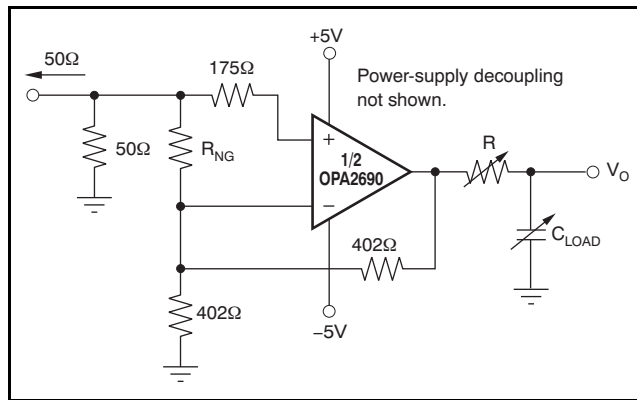
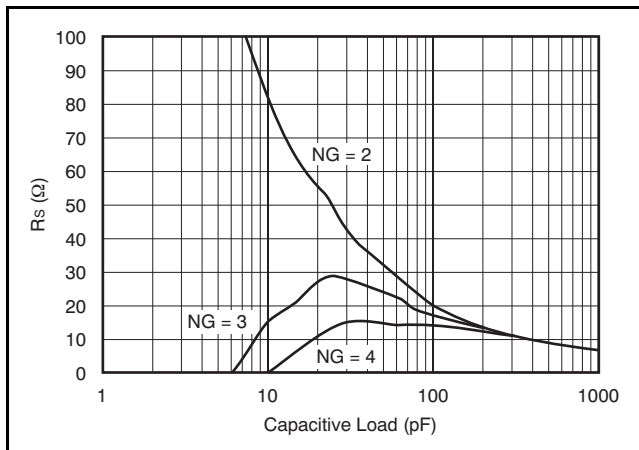

Figure 48. Capacitive Load Driving with Noise Gain Tuning
Figure 49. Required R_S vs Noise Gain
The criterion for setting this R_S resistor is a maximum bandwidth, flat frequency response at the load. For the OPA2690 operating in a gain of +2, the frequency response at the output pin is already slightly peaked without the capacitive load requiring relatively high values of R_S to flatten the response at the load. Increasing the noise gain will reduce the peaking as described previously. The circuit of Figure 48 demonstrates this technique, allowing lower values of R_S to be used for a given capacitive load.
This gain of +2 circuit includes a noise gain tuning resistor across the two inputs to increase the noise gain, increasing the unloaded phase margin for the op amp. Although this technique will reduce the required R_S resistor for a given capacitive load, it does increase the noise at the output. It also will decrease the loop gain, slightly decreasing the distortion performance. If, however, the dominant distortion mechanism arises from a high R_S value, significant dynamic range improvement can be achieved using this technique. Figure 49 shows the required R_S versus C_{LOAD} parametric on noise gain using this technique. This is the circuit of Figure 48 with R_{NG} adjusted to increase the noise gain (increasing the phase margin) then sweeping C_{LOAD} and finding the required R_S to get a flat frequency response. This plot also gives the required R_S versus C_{LOAD} for the OPA2690 operated at higher signal gains without R_{NG} .
- d. **Connections to other wideband devices** on the board may be made with short, direct traces or through onboard transmission lines. For short connections, consider the trace and the input to the next device as a lumped capacitive load. Relatively wide traces (50mils or 1,27mm to 100mils or 2,54mm) should be used, preferably with ground and power planes opened up around them. Estimate the total capacitive load and set R_S from the plot of Recommended R_S vs Capacitive Load (Figure 15 for $\pm 5V$ and Figure 30 for +5V). Low parasitic capacitive loads (< 3pF) may not need an R_S because the OPA2690 is nominally compensated to operate with a 2pF parasitic load. Higher parasitic capacitive loads without an R_S are allowed as the signal gain increases (increasing the unloaded phase margin; see Figure 49). If a long trace is required, and the 6dB signal loss intrinsic to a doubly-terminated transmission line is acceptable, implement a matched impedance transmission line using microstrip or stripline techniques (consult an ECL design handbook for microstrip and stripline layout techniques). A 50 Ω environment is normally not necessary on board, and in fact, a higher impedance environment will improve distortion as shown in the distortion versus load plots (Figure 7 for the $\pm 5v$ and Figure 32 for the +5V). With a characteristic board trace impedance defined (based on board material and trace dimensions), a matching series resistor into the trace from the output of the OPA2690 is used as well as a terminating shunt resistor at the input of the destination device. Remember also that the terminating impedance will be the parallel combination of the shunt resistor and the input impedance of the destination device; this total effective impedance should be set to match the trace impedance. The high output voltage and current capability of the OPA2690 allows multiple destination devices to be handled as separate transmission lines, each with their own series and shunt terminations. If